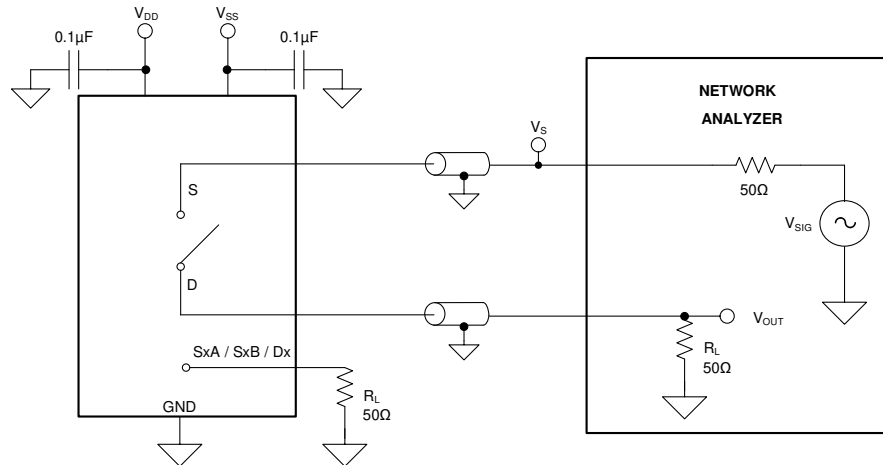

图 7-8. Off Isolation Measurement Setup
Off isolation is defined as the ratio of the signal at the drain pin (D) of the device when a signal is applied to the source pin (S_x) of an off-channel. 图 7-8 shows the setup used to measure, and the equation used to calculate off isolation.